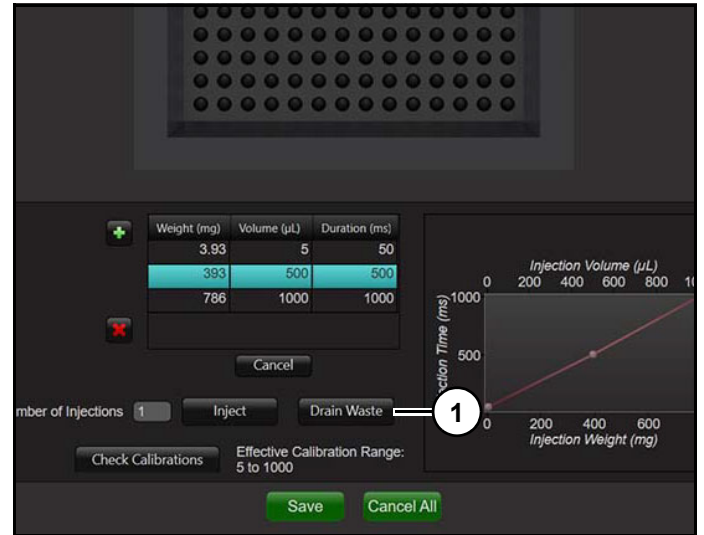

Figure 22
Click "Drain Waste" (1) (Figure 22) to drain waste from waste tray.